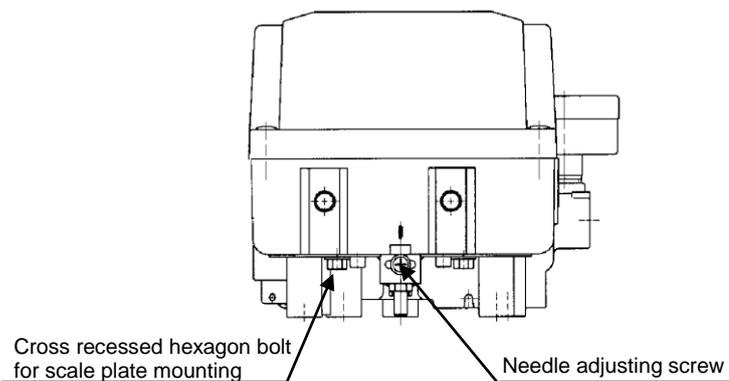

Fig. 48
- (2) Stop the actuator open degree in the middle (50% of positioner input current), and adjust the indicator position so that the indicator position match with gauge at 50% (See Fig. 48). If indicator position does not match with 50% of the gauge even if adjusted, adjust the fork lever unit angle correctly referring “■Initial Adjustment” *1.